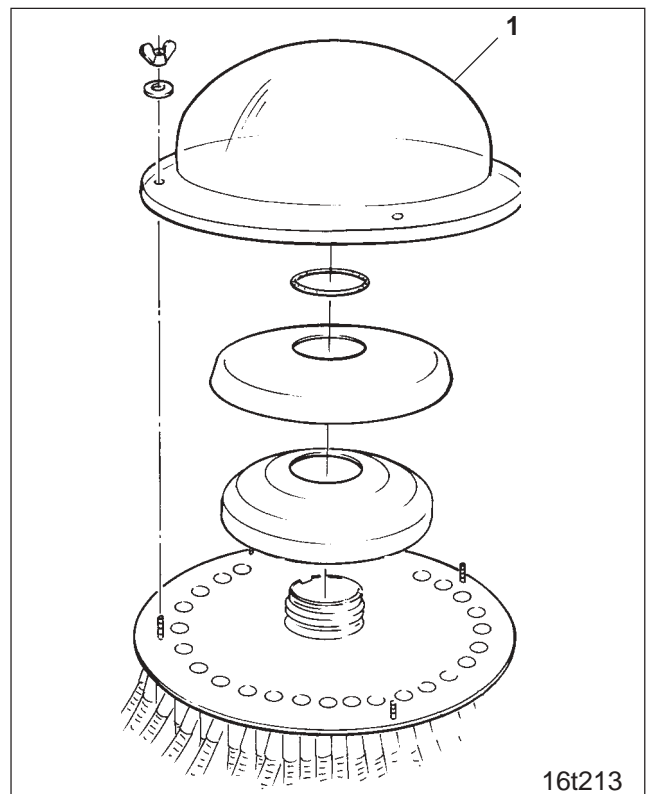

Fig. 16.6
- Remove distributor outer hood (Fig. 16.6/1) for cleaning.